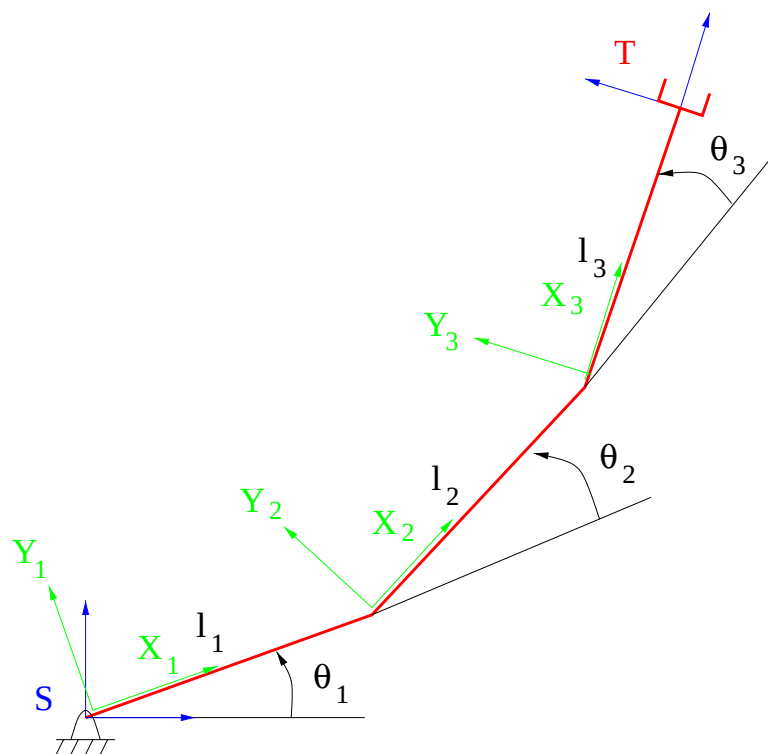

Figure 1. Mechanism for Problem 2.
2. (a) You can do this problem in two ways. The first way is attaching frames to each link and determining the Denavit–Hartenberg parameters, as illustrated in Figure 1. Referring to the figure, the link parameters are: